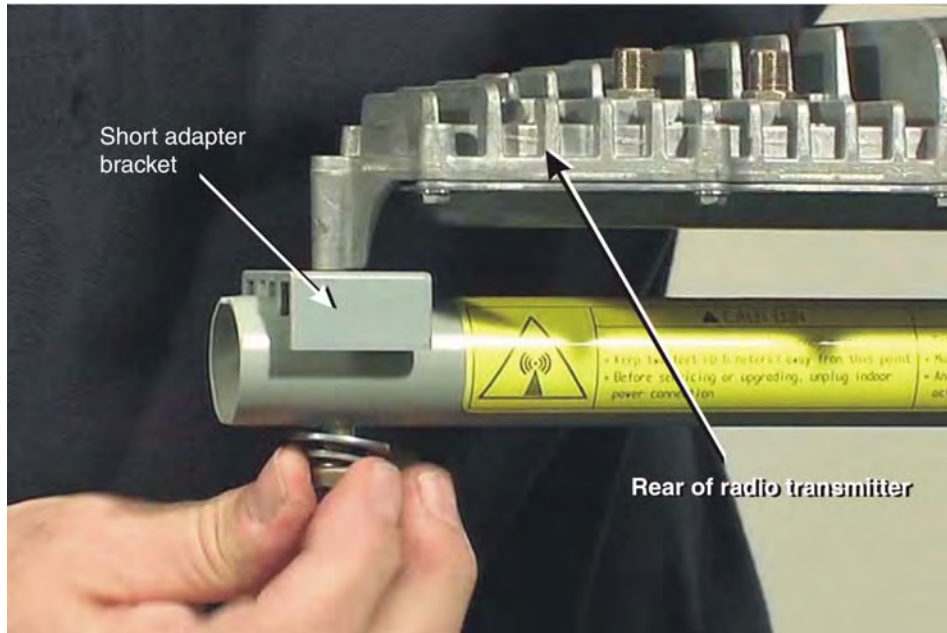

Figure 16: Securing the rear of the radio assembly
8. Place the short adapter bracket in position near the end of the feed support arm and lower the radio onto it as shown in Figure 16.